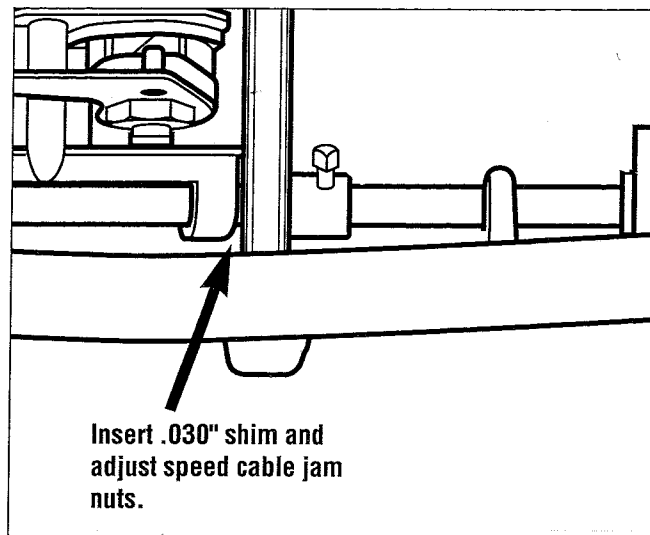

Fig. 14
7. Place a $.030$ " shim or feeler gauge between the friction disc and the carrier on the axle (see Fig. 14) and pull the carrier tight against the shim. Then remove any slack from the speed control cable and tighten the jam nuts. Cycle the wheel speeds from 1-to-5 and 5-to-1. Recheck the gap between the friction disc and carrier with the $.030$ " shim. A gap of $.015$ " to $.060$ " is acceptable.